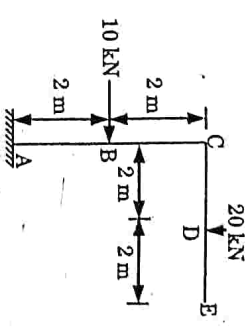

Fig. 4.
c. Determine the horizontal and vertical deflection at point E of the frame shown in Fig. 4. Take EI as constant.